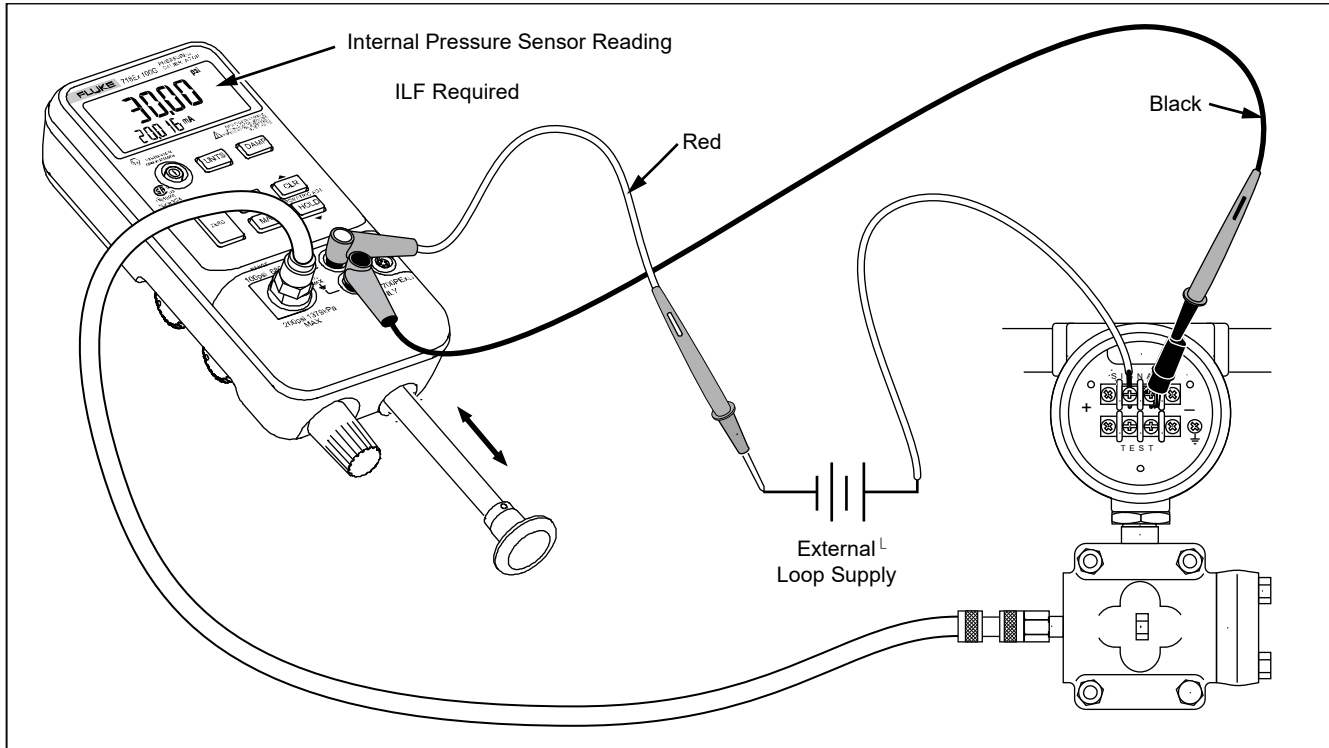
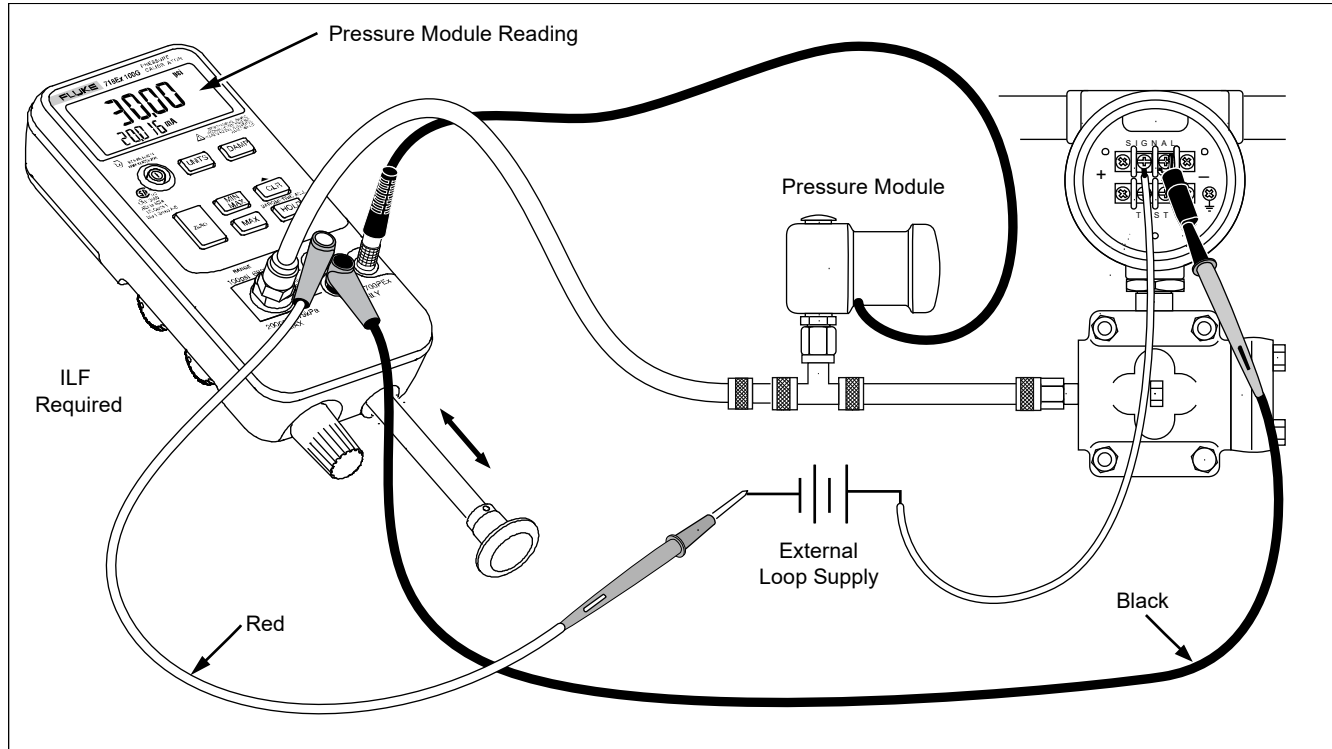

Figure 4. Internal Pressure Sensor with Internal Pump
Figure 5. Pressure Module with Internal Pump
The preferred use for the internal pump is shown in Figure 4, where the Calibrator displays pressure measured with the internal sensor and provided by the internal pump.
The internal pump can also be used with certain Fluke 750PEX Series Pressure Modules. In this case, pressure measured by the pressure module is displayed by the Calibrator. Appropriate pressure modules for each Calibrator model are identified in Table 4. Figure 4 shows the internal pump being used with a pressure module.
To use the Calibrator's internal pump, refer to Figure 4 and perform the following steps:
2. Connect the pressure transmitter under test to the Calibrator internal sensor as shown in Figure 4 (for internal pressure sensor measurements) or Figure 5 (for pressure module measurements.)